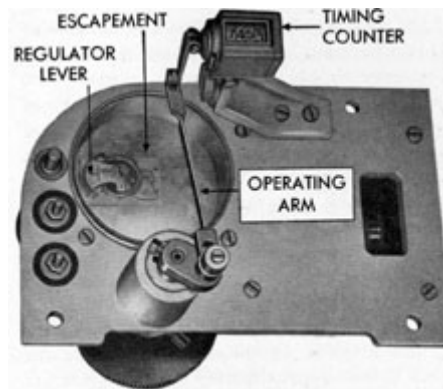

Figure 20-5. Direct current clock integrator timer.
**20E2. Checking integrator timer.** There are two types of integrator timing mechanisms used with the mercury manometer log. They are the synchronous motor integrator timer (known as the a.c. clock type), illustrated in Figure 18-5, and the d.c. clock integrator timer, known as the d.c. clock type (Figure 20-5). In the 18- and 20-knot logs, the d.c. clock is used and the integrator operating arm makes 180 strokes per hour. In the 22-knot logs, some having d.c. clocks and some having a.c. clocks, the operating arm makes 240 strokes per hour. The number of strokes per hour for each particular unit is indicated on a marker plate which is mounted over the
strokes per hour is in error, check the constant frequency supply to be sure it is exactly 60 cycles. Also check the gearing for deposits of grease which may prevent the constant speed motor from running at synchronous speed. Clean and lubricate the gear mechanism. On the d.c. clock integrator timer, any error in the clock may be corrected by means of the regulator lever on the escapement (Figure 20-5). Moving the lever down one division on the scale will cause the clock to gain about half a minute per day. Moving the regulator up one division on the scale will cause the clock to lose approximately half a minute per day.